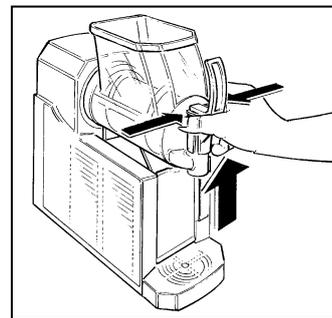

Fig. 14
- Simultaneously press the two securing tabs and lift the tap to extract it from its seat (see fig.14).